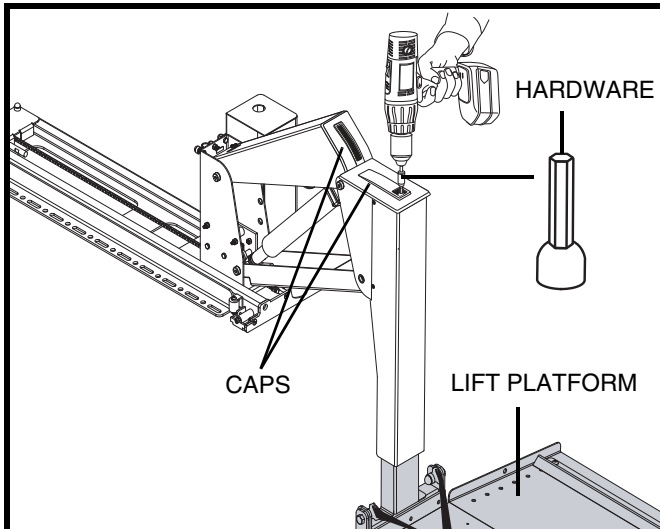

Figure 13. Raise Or Lower The Platform. **DO NOT** Use The Flex-Shaft For This Operation (Backpacker MV ONLY)
The Backpacker MV lift platform can be raised/lowered from the adjustment point located at the top of the lift (see figure 13).
PROHIBITED! DO NOT use the flex-shaft when manually raising or lowering the lift platform while using the method illustrated in figure 13. Attach the needed hardware directly to the drill.
1. Secure the appropriate end of the flex-shaft to a drill, and depending on which part of the lift you want to move, attach the appropriate hardware to the other end of the flex-shaft. See figures 13, 14, 15, and 16.